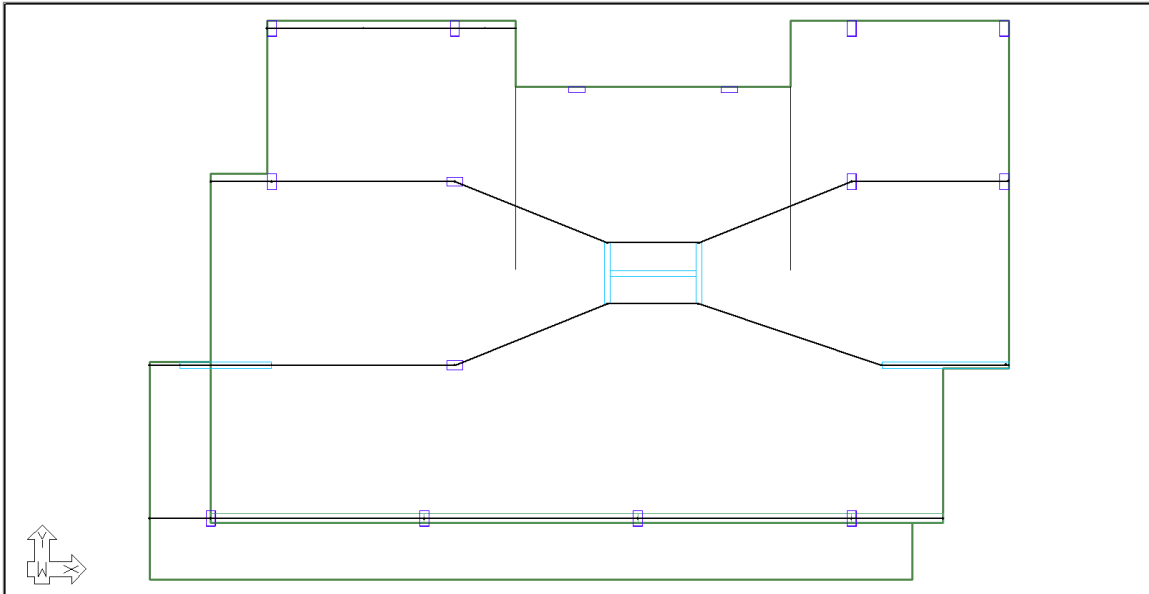

FIGURE 9-15
- Enter another construction line at the reentrant corner to the right using the same procedure as above, but this time your first point for the second construction line will start around (115,90.5,12.5). After the second construction line is entered, your screen will appear like **FIGURE 9-15**.